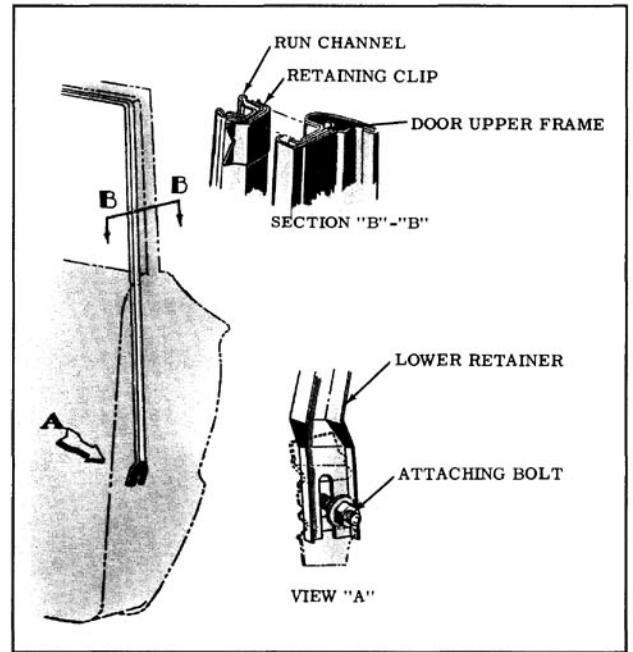

Fig. 16-69 Rear Glass Run Channel
1. Raise door window. Remove door trim assembly and detach inner panel water deflector sufficiently to gain access to rear glass run channel lower attaching nut. Remove nut and disengage lower end of run channel. (Fig. 16-69)